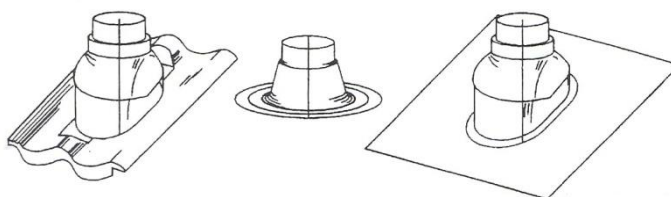

FIGURE 8.7 VERTICAL TERMINAL ROOF FLASHINGS FOR SYNTHETIC, FLAT AND TILED ROOFS
1. Confirm that the roof flashing is correct for the type of roof through which the terminal is to be installed. (See **Figure 8.7**)